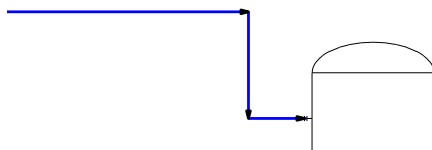

Figure 2-51 Reflux line connected to the vessel
4. Create another primary line by specifying the start point at 4,17. It should be similar to the line shown in Figure 2-51. Assign tag **4"-CS150-P-1000** to the line.